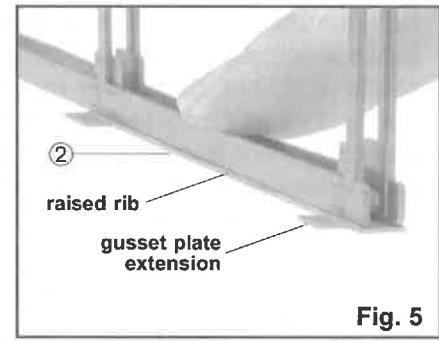

Fig. 5
Note that all bent lattice parts have a raised rib along each edge on one face. To assemble the outside bent lattice, lay part (2) flat on the work surface with the rib side up. Place the bent assembly on edge on top of part (2) so the ribs are on the outside of each bent half. See fig. 5. Cement in place, one edge at a time, while holding the bent half against the rib. Be sure the end of part (2) is flush with the end of the bent. Repeat with parts (3), (4), and (5). The eight gusset plate extensions on parts (2), (3), (4), and (5) should all extend in the same direction, or up with the bent assembly flat on the work surface. See fig. 5 & 8.
**Note:** If building a four or five story tower using the Tall Steel Viaduct Height Extension kit #75-546 in conjunction with this three story tower, trim off the entire bottom gusset plate on parts (2) and (3) before cementing them to the bent assembly. Then cement parts (4) and (5) before parts (2) and (3) so they can be aligned flush with the top of the bent assembly.